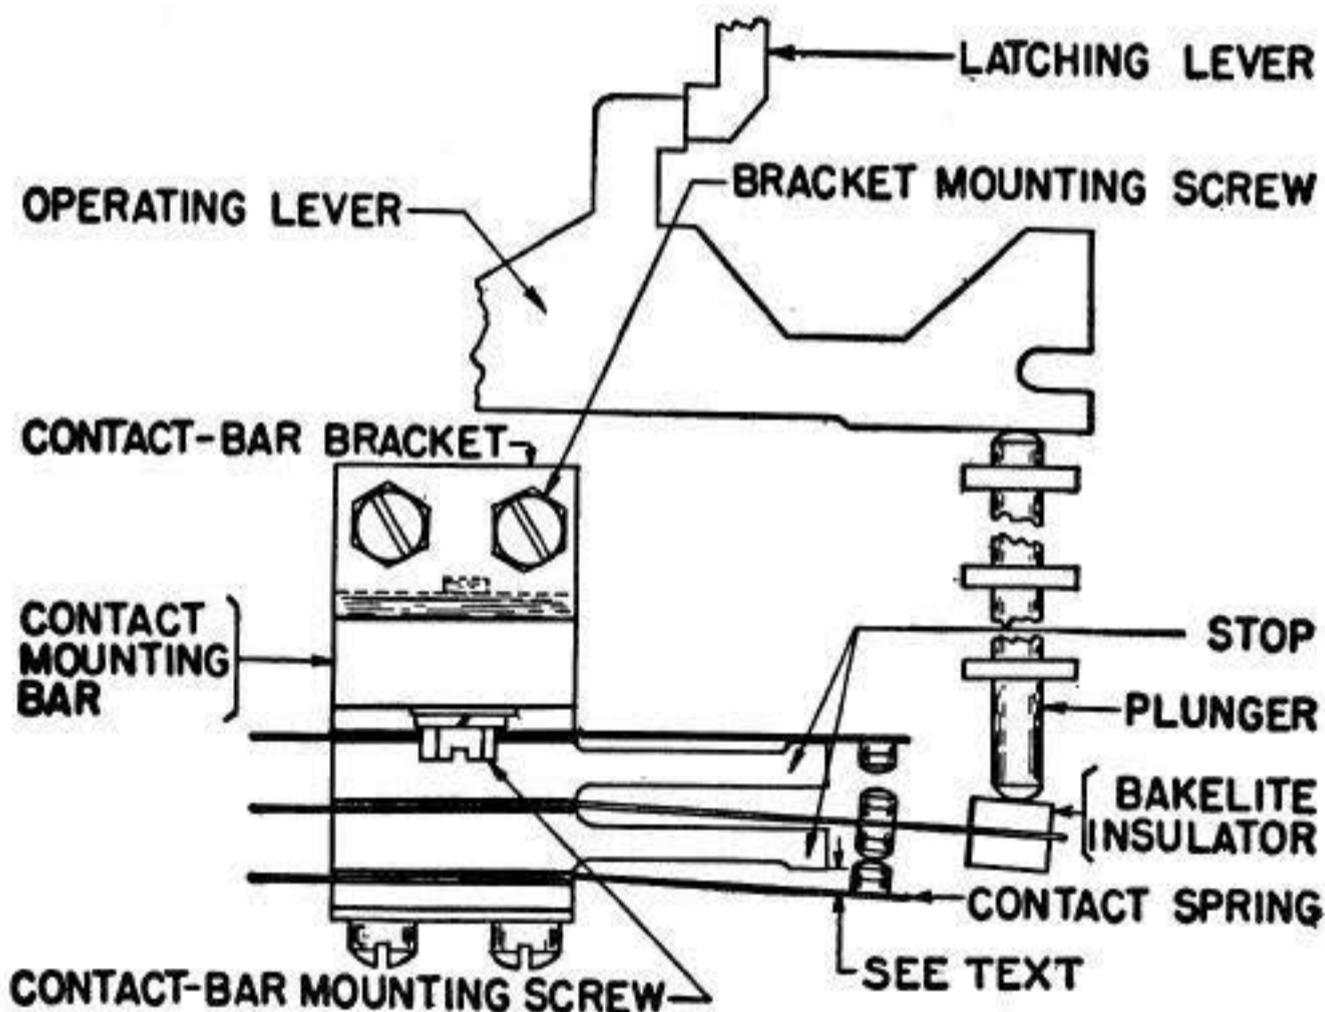

Fig 31
(a) Each portion of the bifurcated short contact springs should have a tension of Min 1 oz, Max 2-1/4 oz, against its associated stop. **Fig 31**
(b) It should require Min 2 oz, Max 3-1/2 oz, to just separate the contacts of the middle contact-spring from the contacts of the upper contact spring. **Fig 31**
(c) With the operating lever in its latched position, there should be at least .015" clearance between the contacts of the middle contact-spring and the contacts of the lower contact-spring. **Fig 31**
(a) With the operating levers in their unlatched positions, there should be some clearance between all the lower contact-springs and their associated stops, measured at the outer ends of the stops. On at least one contact pile-up this clearance should not exceed .010". On the remaining pile-ups the clearance should not exceed .025". **Fig 31**
(b) The plungers should be centered on each bakelite insulator on the contact-springs. **Fig 31**
(1) To adjust, note whether the majority of plungers are off-center and loosen the screws which mount the contact-mounting bar to its brackets and position the mounting-bar assembly. Tighten the screws. If individual contact assemblies are out of alignment, loosen the contact-assembly mounting screws and position the individual assembly. Before retightening the screws, check that the spring contacts line up with each other.
3.53 **Universal Contact-Lever:** (BS3C and BS6L) With the stripper bail in its extreme forward position, there should be Min .007", Max .010" clearance between the lower bifurcated contact springs and their associated stops—measured at the ends of the stops. **Fig 31**